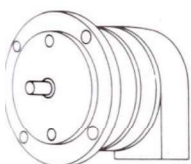

Figure 4-6 Incremental encoder with two-channel output.
- The pulse frequency is directly proportional to the shaft speed. The encoder contains a glass disk mounted on the shaft and marked with a precise circular pattern of alternating clear and opaque segments on its periphery, as is shown in Fig. 4-6.